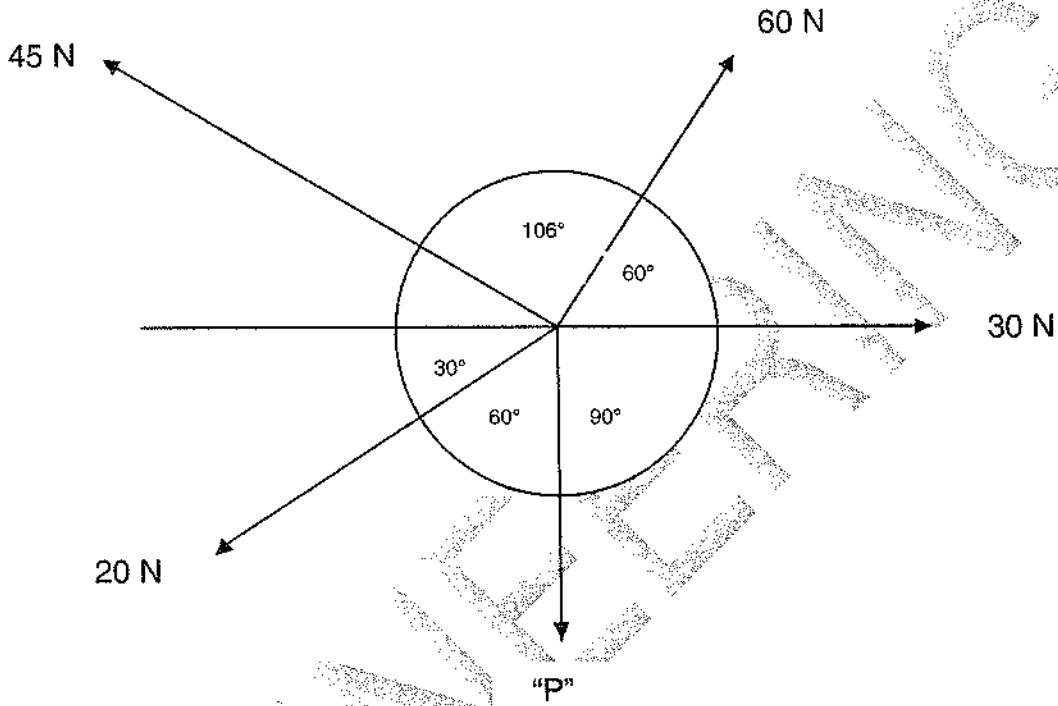

FIG 1
- (10 × 1) (10)
- 5.2 FIGURE 1 on the attached DIAGRAM SHEET shows a system of coplanar, concurrent forces that are in equilibrium. Use a graphical method to determine the magnitude of force "P" and the direction of the 45 N force. (8)